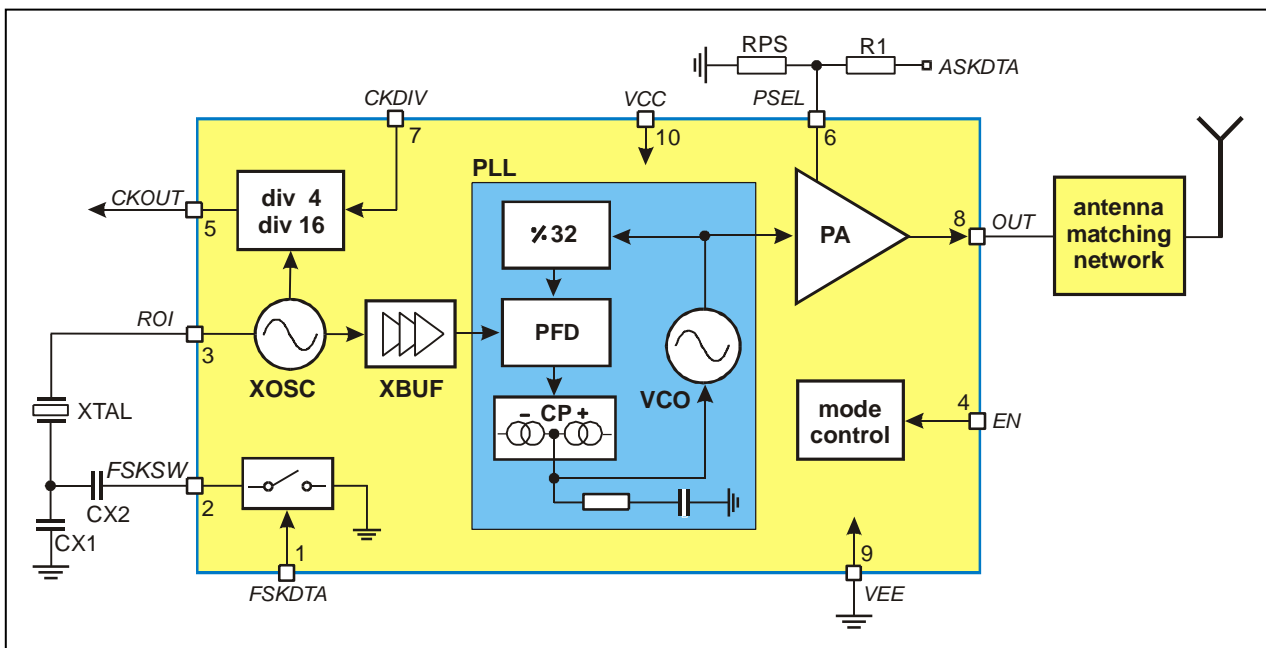

Fig. 1: Block diagram with external components
As depicted in Fig.1, the TH72016 transmitter consists of a fully integrated voltage-controlled oscillator (VCO), a divide-by-32 divider (div32), a phase-frequency detector (PFD) and a charge pump (CP). An internal loop filter determines the dynamic behavior of the PLL and suppresses reference spurious signals. A Colpitts crystal oscillator (XOSC) is used as the reference oscillator of a phase-locked loop (PLL) synthesizer. The VCO's output signal feeds the power amplifier (PA). The RF signal power  $P_{out}$  can be adjusted in four steps from  $P_{out} = -12$  dBm to +10 dBm, either by changing the value of resistor RPS or by varying the voltage  $V_{PS}$  at pin PSEL. The open-collector output (OUT) can be used either to directly drive a loop antenna or to be matched to a 50ohm load. Bandgap biasing ensures stable operation of the IC at a power supply range of 1.95 V to 5.5 V.